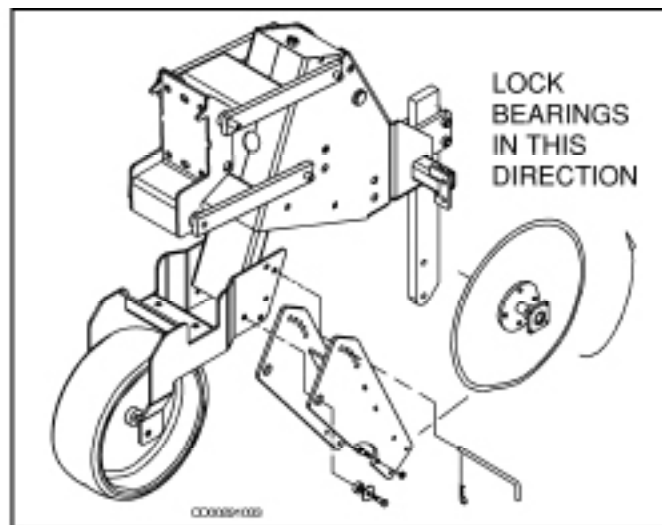

Figure 25 Disc Mount Assembly
4. Lock bearing lock collars in direction of wheel travel (see Figure 25).
2. Mount disc/hub assembly to disc mount weldment, using $3/8$ NC $\times 1-1/2$ hex head cap screw as shown in Figure 25.